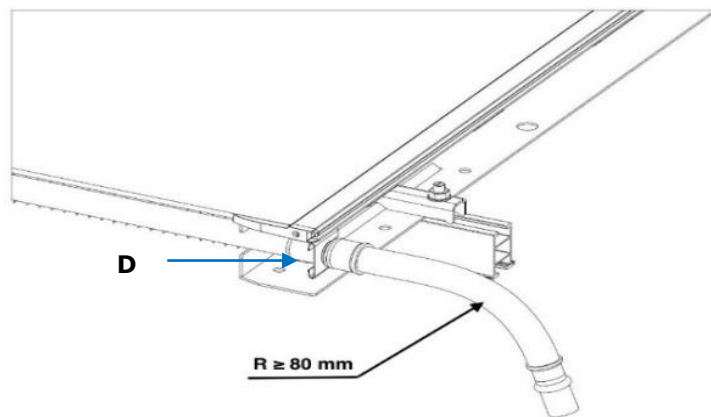

Figure 7.4-a Attach retaining clip at (D)
2. Secure the TS clamping profile by bending the ridge upwards (at C in figure 7.4-b).
The connecting hoses must not contain any sharp bends after fixing.  $R \geq 80\text{mm}$ . See Figure 7.4.a.
3. Place retaining clips over the header of the panels and into the slot in the TS plug/spigot ribbed hose. See in Figure 7.4-a, at D.